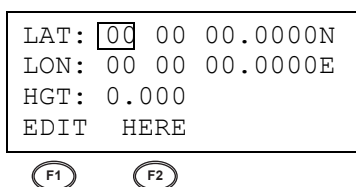

Figure 3-59. Enter or Edit Position Coordinates
- Check the coordinates (Figure 3-59).